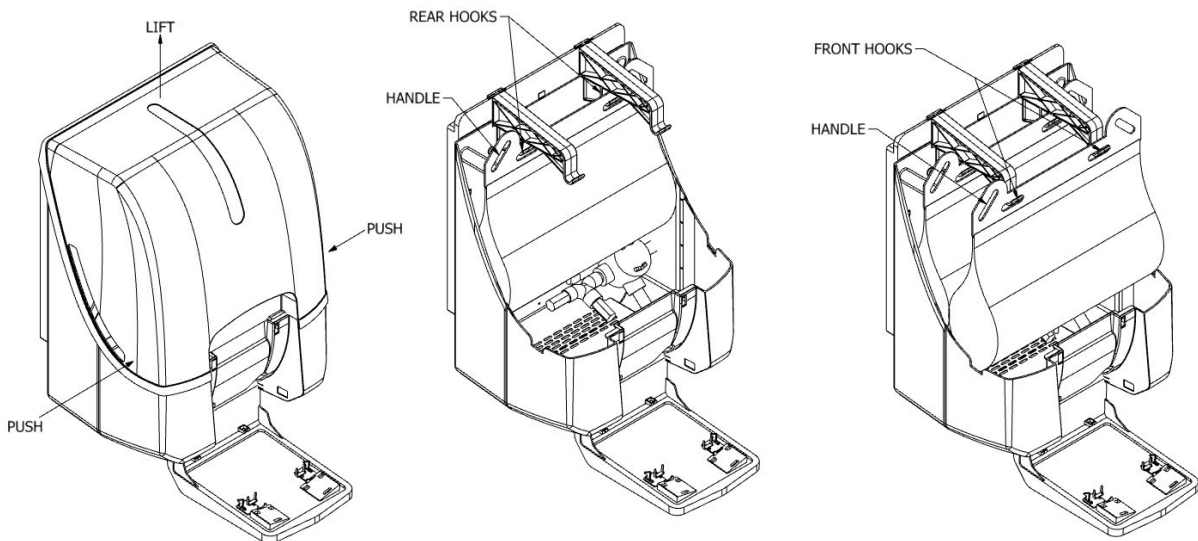

FIGURE 15
Step 7. Remove Lid Assembly (Ref Figure 15)
- A. To remove the Lid Assembly, a slight pressure must be applied to both sides of the Lid (Ref Figure 15). This will disengage the Locking Tab inside lid assembly. While pressing in, lift upward and cover will come off.
- A. Lift first Cartridge by handle provided and place on rear hooks of Hanger Bracket (Ref Figure 15).
- B. Lift second Cartridge by handles provided and place on front hooks of Hanger Bracket (Ref Figure 15).
1. Visually inspect Cartridge status through Side Windows on Lid Assembly (Ref Figure 15).